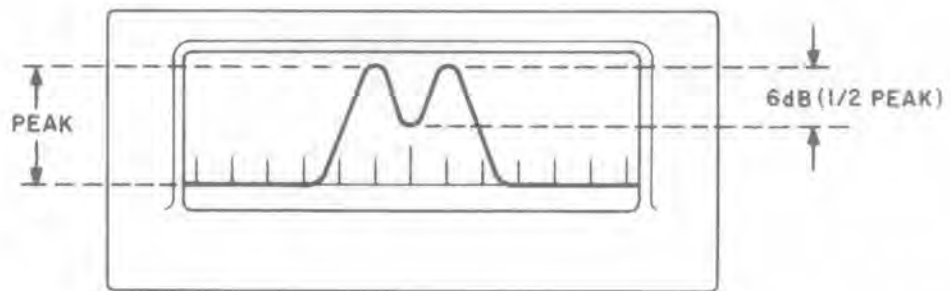

Figure 4-8. Typical Response, Signal Monitor Resolution Test
- (7) Decrease the signal generator output frequency until the pip on the crt is centered behind the sixth graticule mark to the left. Record the frequency counter indication.
- (8) Increase the output frequency until the pip is centered behind the sixth graticule mark to the right of the center mark. Record the frequency counter indication.
- (9) Subtract the frequency recorded in step (7) from the frequency recorded in step (8) to determine the maximum sweep width. The frequency difference should be in the range of 3.0 mc to 3.3 mc.
- (10) To verify the proper sweep linearity, the frequency recorded in step (7) should be in the range of 19,750 mc to 20,050 mc; in step (8) it should be in the range of 22,750 mc to 23,050 mc.
- (11) Turn the signal monitor GAIN control maximum counterclockwise. Turn the MARKER switch ON.
- (12) Use the CENTER FREQ control to center the marker pip under the center mark.
- (13) Use the SWEEP WIDTH control to expand the base of the marker pip until it is two divisions wide.
- (14) Rotate the signal monitor GAIN control clockwise until the signal generator pip is the same height as the marker pip. Turn the marker off and then on again to observe the two heights.
- (15) Adjust the signal generator frequency for a zero beat with the signal monitor marker.
- (16) The indication on the frequency counter at zero beat should be  $21.4 \text{ mc} \pm 1.1 \text{ kc}$ . This assures that the marker oscillator frequency is correct. Record the frequency for use in step (19).
- (17) Increase the signal generator frequency until the resulting valley between the marker pip and the signal generator pip is midway between the baseline and the height of the two pips as shown in Figure 4-8.